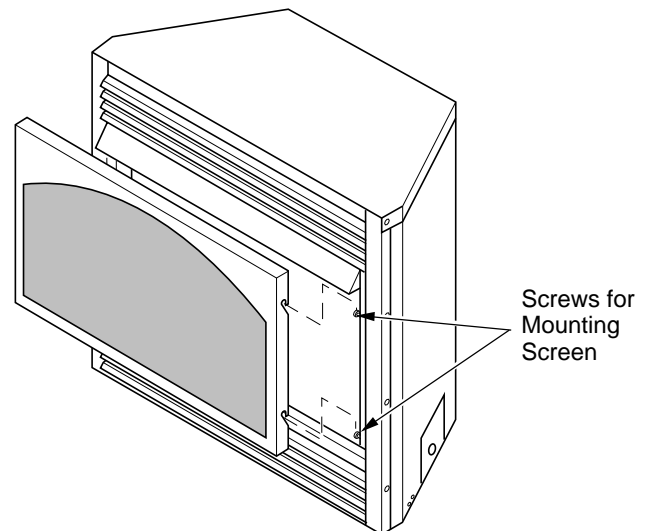

Figure 1 - Removing Fireplace Screen
1. To remove screen, lift screen up off the screws in front of fireplace (see Figure 1).
10. Replace screen (see Figure 1, page 1).